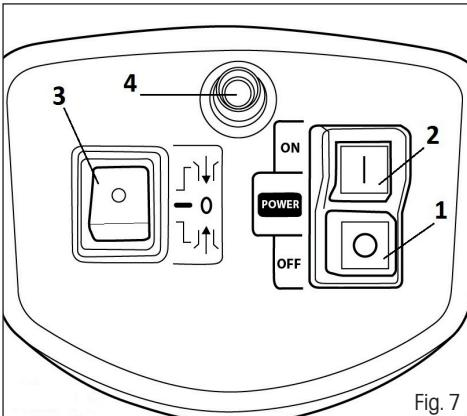

Fig. 7
### Turning the shredder on and off (Fig. 7)
- ✿ To turn on the shredder, press the button with the "I" symbol. Fig. 7, point 2
- ✿ To turn off the shredder, press the button with the "O" symbol. Fig. 7, point 1
### Forward / reverse rotation switch (Fig. 7, point 3)
- The shredder is equipped with overload protection (Fig.7, point 4)
4. Press the safety fuse button (Fig. 7, point 4).